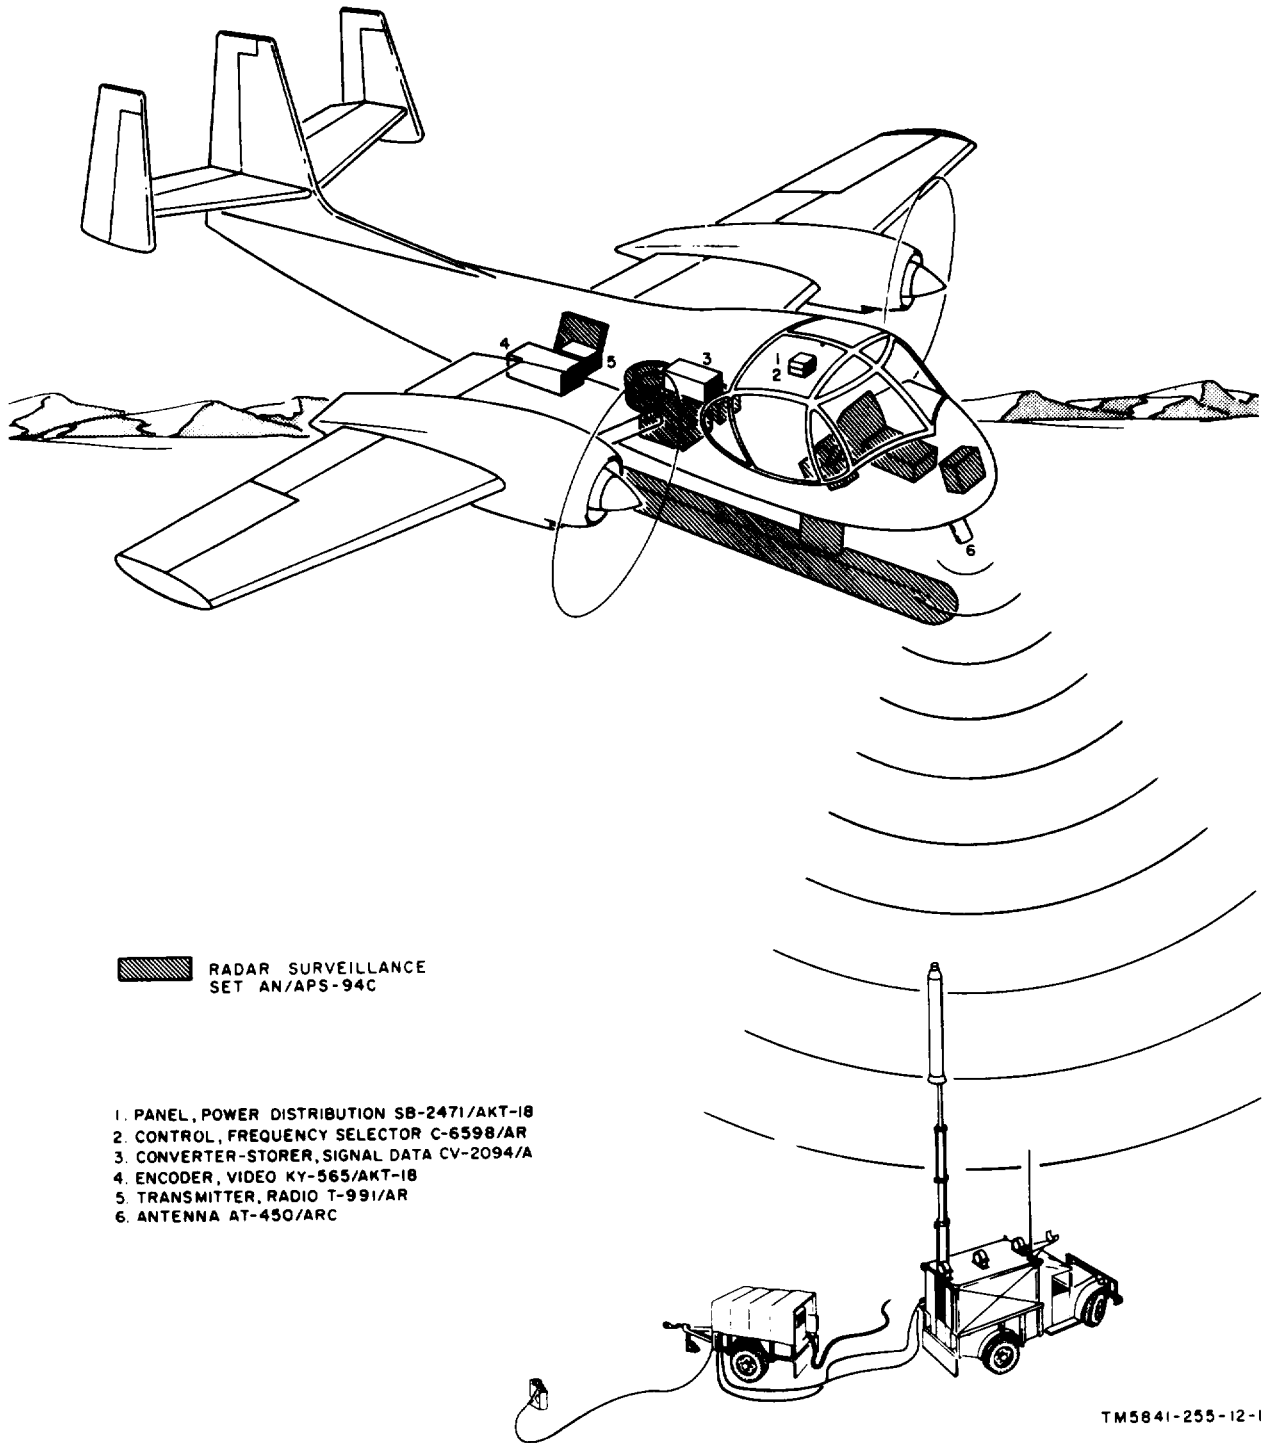

Figure 1-1. Transmitting Set, Radar Data AN/AKT-18, location of major components.
a. This manual describes Transmitting Set, Radar Data AN/AKT-18 (fig. 1-1) and covers its operation, and operator and organizational maintenance. It includes operating procedures, cleaning and inspection of the equipment, and replacement of parts available to organizational maintenance. Also described in this manual is Test Facilities Kit MK-856/AKT-18 which is used by direct support maintenance personnel to maintain Transmitting Set, Radar Data AN/AKT-18.